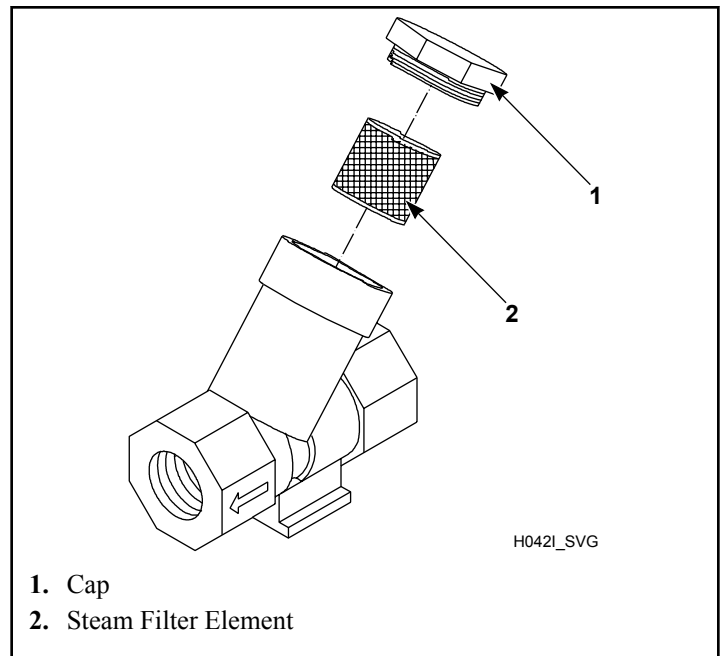

Figure 57
3. If applicable, clean the customer-supplied steam filter. Refer to *Figure 57*.